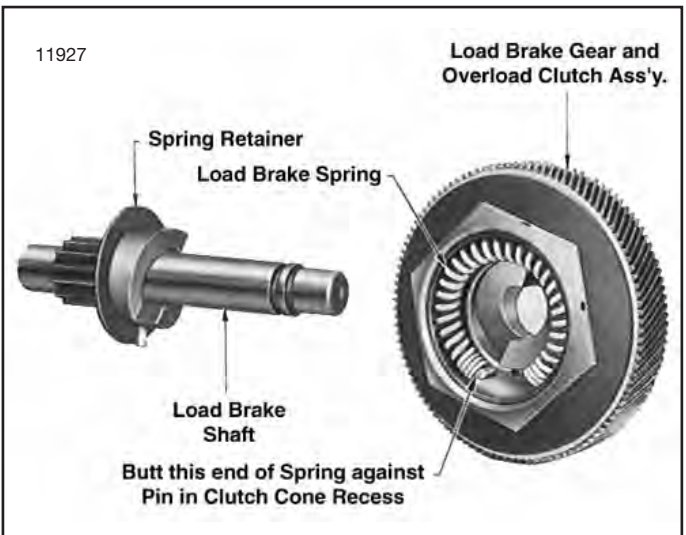

Figure 7-24. Load Brake Gear and Overload Clutch Assembly Removed from Load Brake Shaft Showing Brake Spring Installed in Clutch Cone
(3) Remove load brake gear and overload clutch assembly from output pinion shaft. Pull the spring from its recess in clutch cone (fig. 7-24) but do not further disassemble gear and clutch assembly. See "NOTE" below.
NOTE: Disassembly of the load brake gear and overload clutch assembly (fig. 7-24) is not recommended. Clutch pressure is preset by the factory at assembly to provide the correct torque to allow the clutch to refuse loads within a specified range (150% of rated load to 200% rated load). It is suggested whenever there is a need to repair or readjust the gear and clutch assembly that it be sent to an authorized **Budgit** Hoist Repair Station where adequate tools, fixtures and appropriate test equipment is available.
(1) Before assembly, all parts should be cleaned and inspected to determine their serviceability. Replace parts that are worn or damaged.
(2) Reassemble load brake parts following a reverse procedure of the disassembly steps listed above, observing the assembly steps (3) through (6) below.
(3) Before installing spring in its recess in center of clutch cone (fig. 7-24) apply a good grade of ball bearing grease to inside of recess. Spring must be positioned exactly as illustrated, abutted against pin.